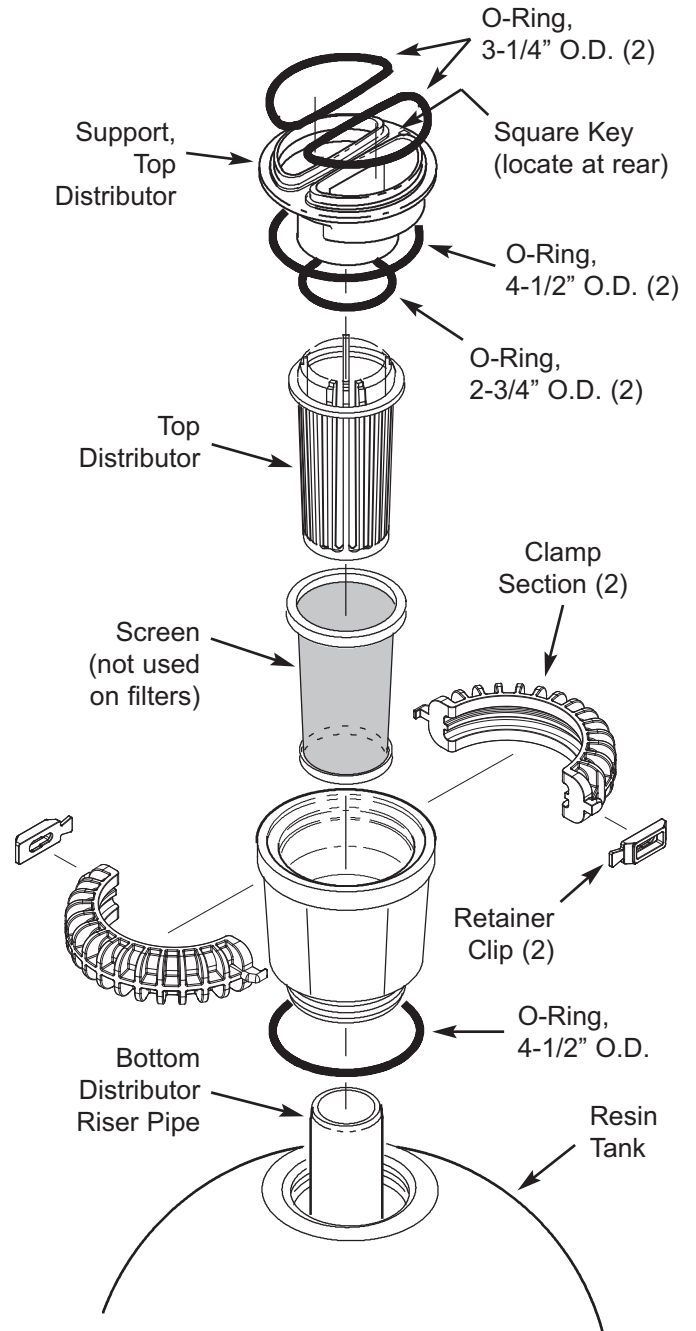

FIG. 2
9. From the parts box, obtain the tank adaptor and a 4-1/2" O.D. o-ring seal. Lubricate the o-ring and place in the groove at the bottom of the tank adaptor (Figure 2).
11. Referring to Figure 2, do the following:
12. Lower the valve assembly onto the tank adaptor and support (Figures 2 and 3). The valve must be lowered straight down or the o-rings will slip out of place. Install the two large clamps, securing with the two retainers. **Be sure the clamps and retainers are secured in place.**